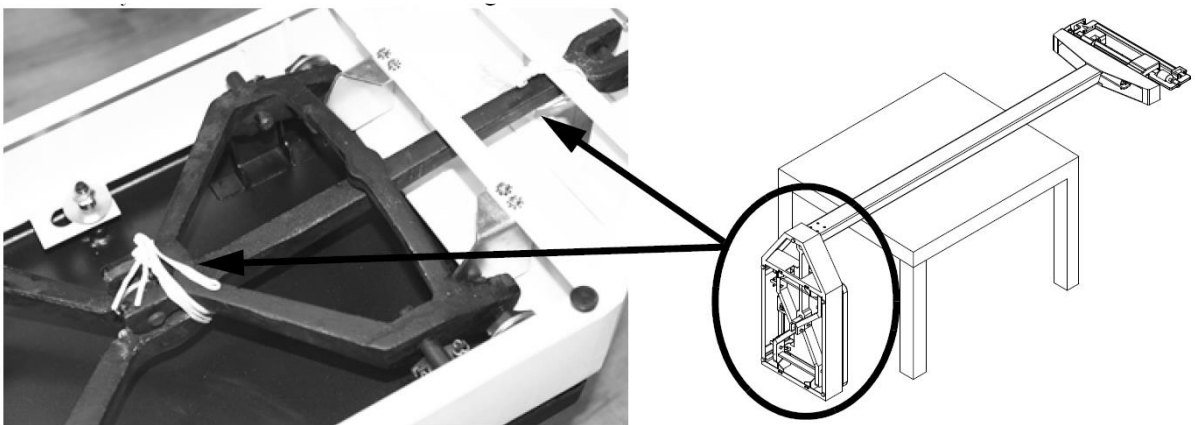

Figure 4. Lay Scale on Table to Access Bottom of Scale
5. Lay the scale on a table. Remove and discard the shipping tie wrap wires on the underside of the scale carriage as shown in Figure 4.